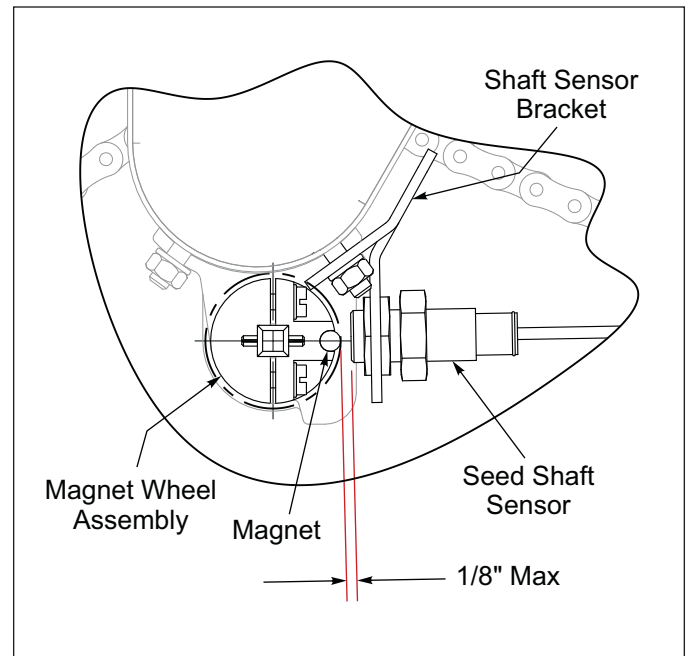

Figure 2-44: Console w/Clutch Control - Front Seed Box Shaft Sensor Detail
6. Slide/Position Seed Shaft Sensor so it is 1/8" from the magnet. **See Figure 2-44.** Tighten both Retaining Locknuts.